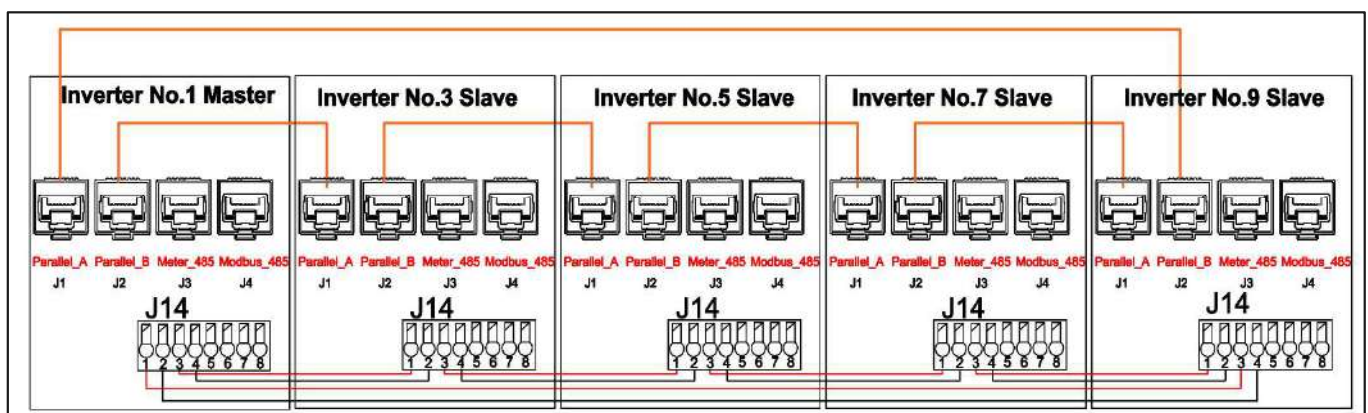

Figure 4.8 Parallel cable connection
b) Please check whether the parallel cable connection is correct as shown in Figure 4.8.